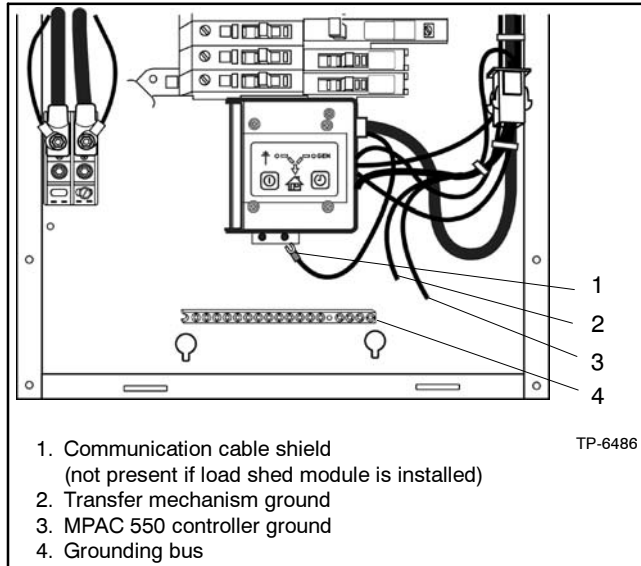
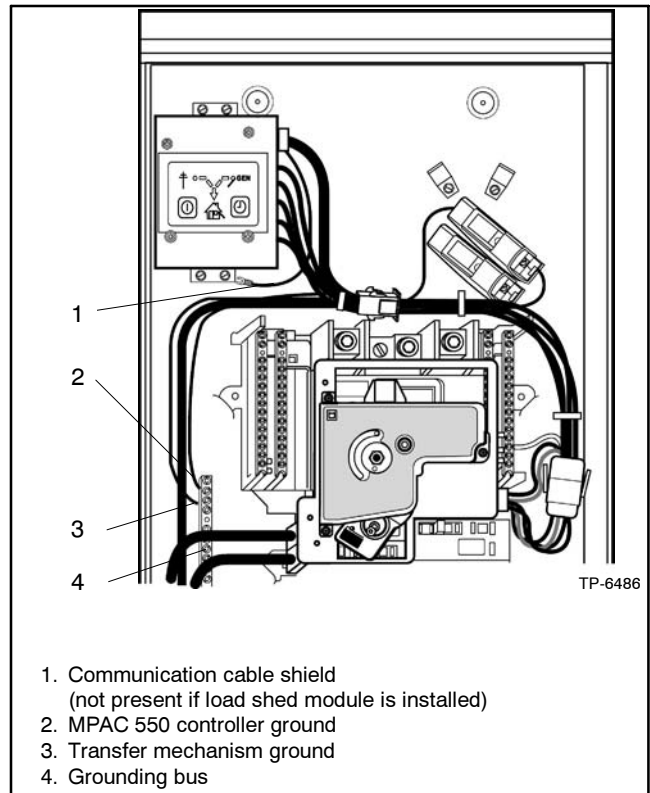
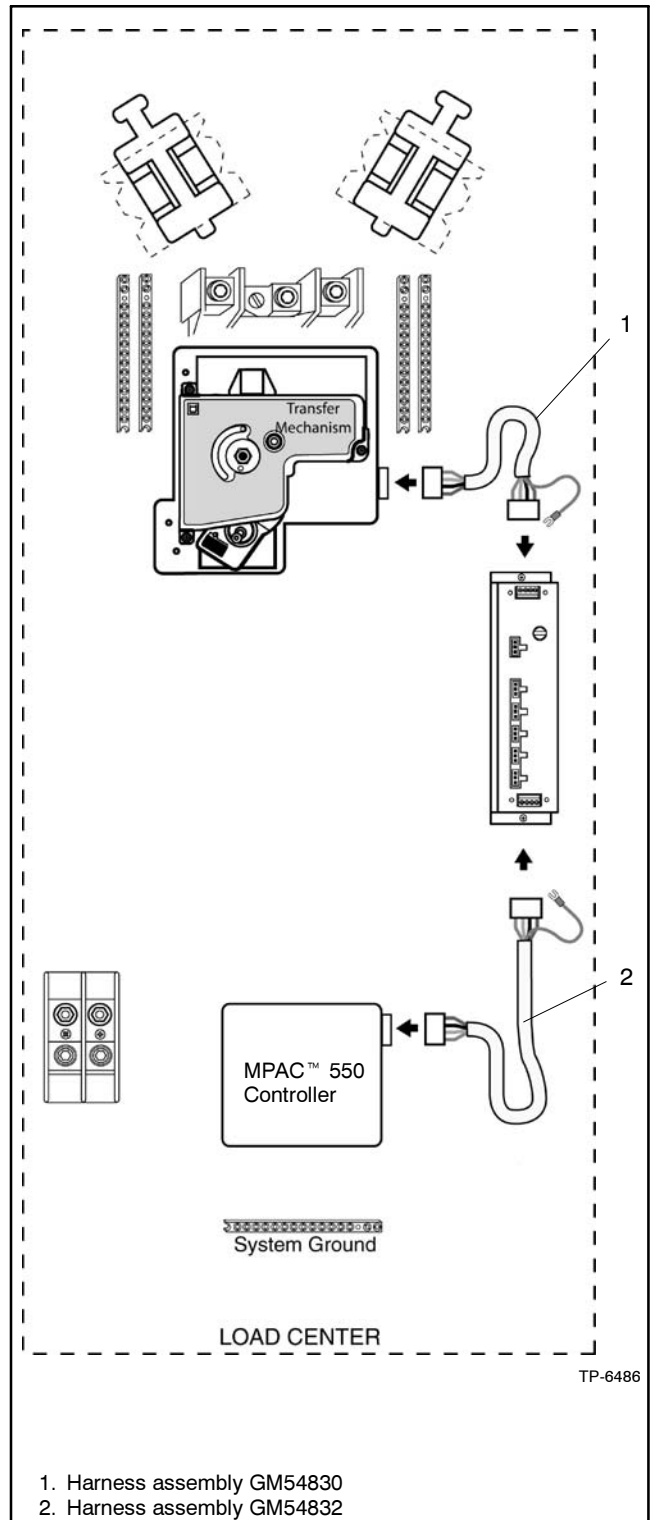
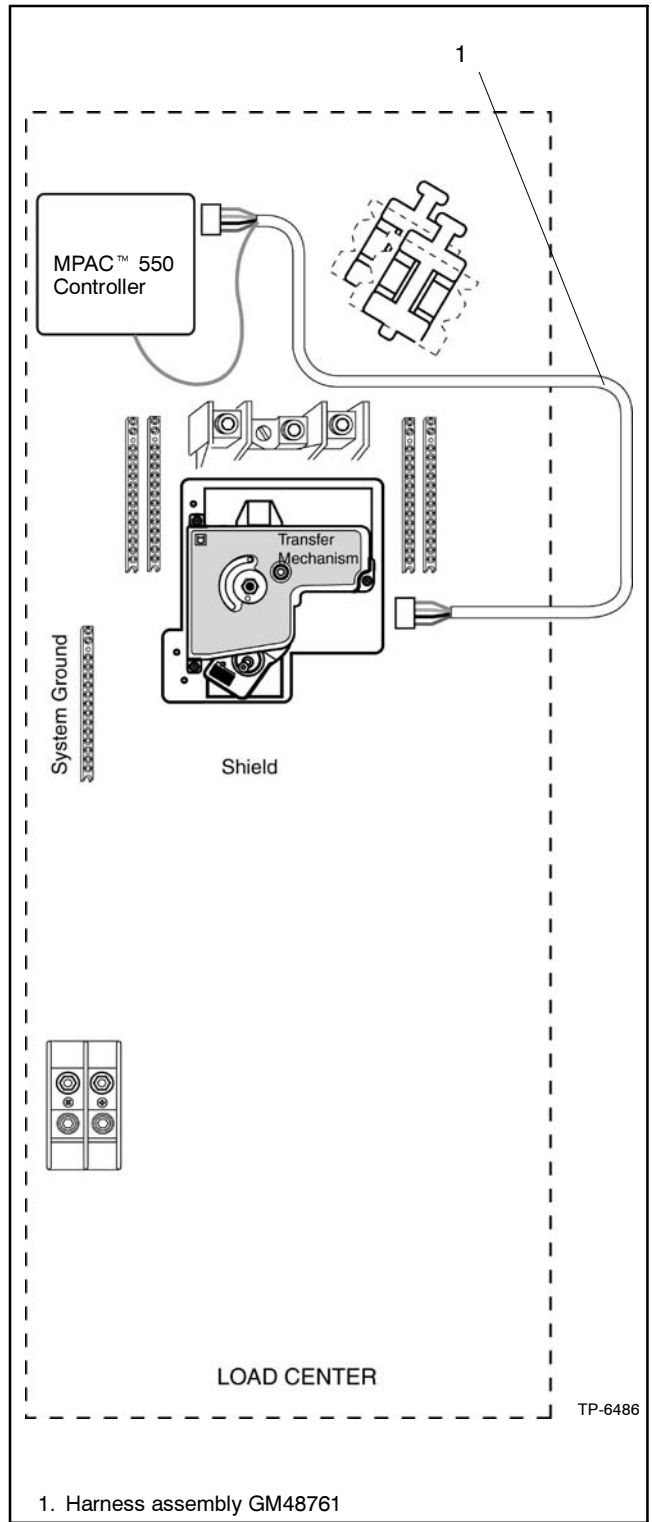

Figure 2-55 Installing Grounding leads, Type 1 Enclosures
Figure 2-56 Installing Grounding Leads, Type 3R Enclosures
Figure 3-5 Communication Harness Wiring With One Load Shed Module, Type 1 Enclosures
Figure 3-7 Communication Harness Wiring Without Load Shed Module, Type 3R Enclosures
1. Slide the spade connector of the shield wire for the communication cable between the mounting screw of the generator control unit and the control unit housing as shown in Figure 2-55 (Type 1 enclosures) and Figure 2-56 (Type 3R enclosures). Secure the mounting screw, taking care not to crush the shield wire connector.
2. For the following connections, loosen the screw at the appropriate terminals, install the wires, and torque the screws to 2.3 Nm (20 in. lb.). Refer to Figure 2-55 and Figure 2-56 for grounding bus location. Refer to Figure 2-57 for the lead and terminal markings. Refer to Figure 3-2, Figure 3-3, Figure 3-5, and Figure 3-7 for wiring schematics.